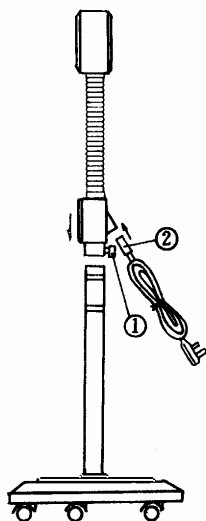

Fig.4
3. Install the irradiation head and supply wire (see Fig. 4). Loosen the fixed screw (1) on the control box and connect the contact of the control box to the short pipe and tighten the fixed screw on the control box. Insert obliquely the three - pin plug (2) with the power wire into the socket of the control box on the back cover.